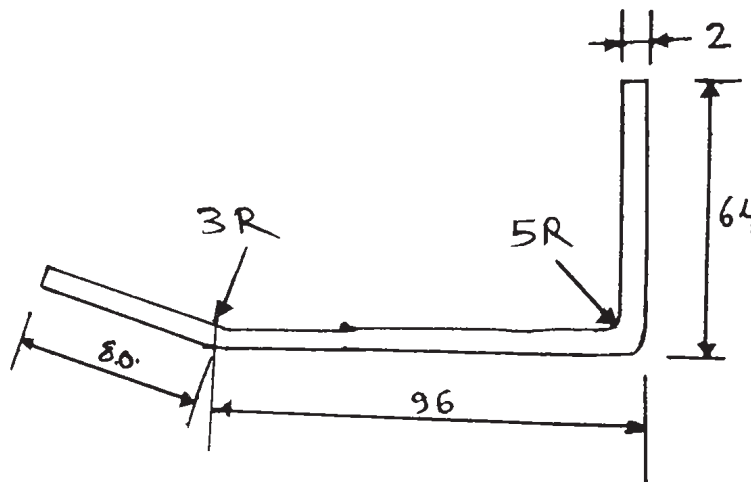

Fig. No. 2
- (ii) Calculate the blank length to make the part as shown in Figure No. 2